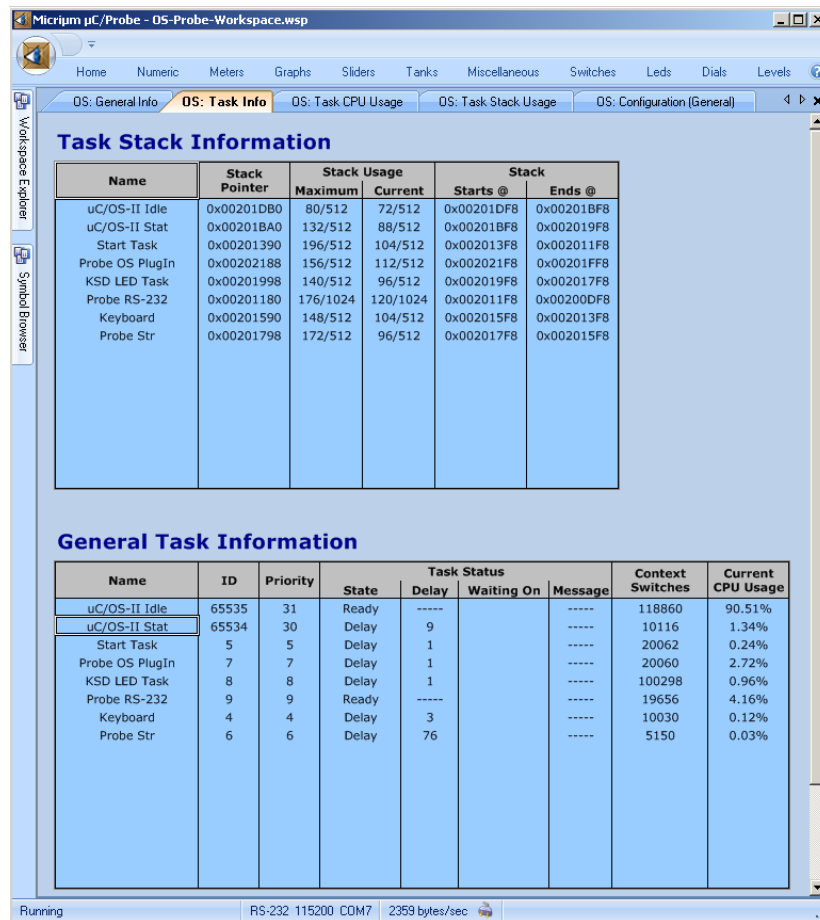

Figure 6-3. **uC/Probe** Run-Time: **uC/OS-II** Task Information
6. **Start Running.** You should now be ready to run **μC/Probe**. Just press the run button () to see the variables in the open data screens update. Figure 6-3 displays the **μC/OS-II** workspace which display detailed information about each task's state.